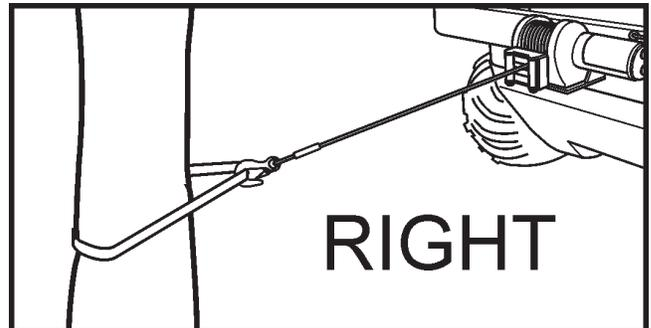
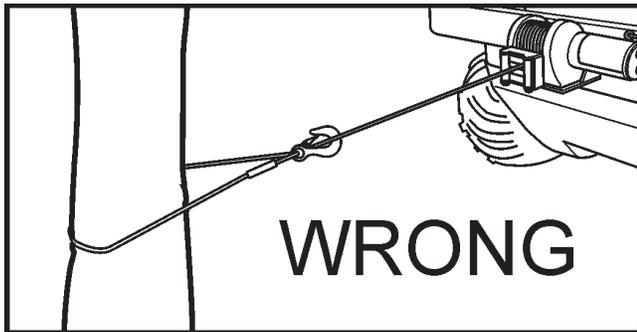

Figure 11-9. Correct hook-up.
Figure 11-10. Incorrect hook-up.
8. **NEVER HOOK THE WIRE ROPE BACK ONTO ITSELF.** Use a nylon sling. (Figure 11-9). Hooking the wire rope onto itself can damage the rope (Figure 11-10).